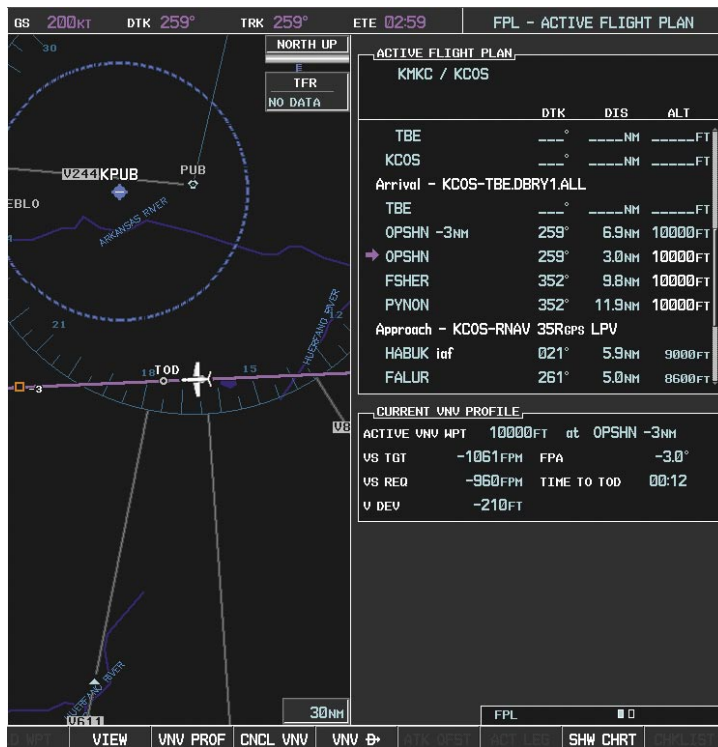
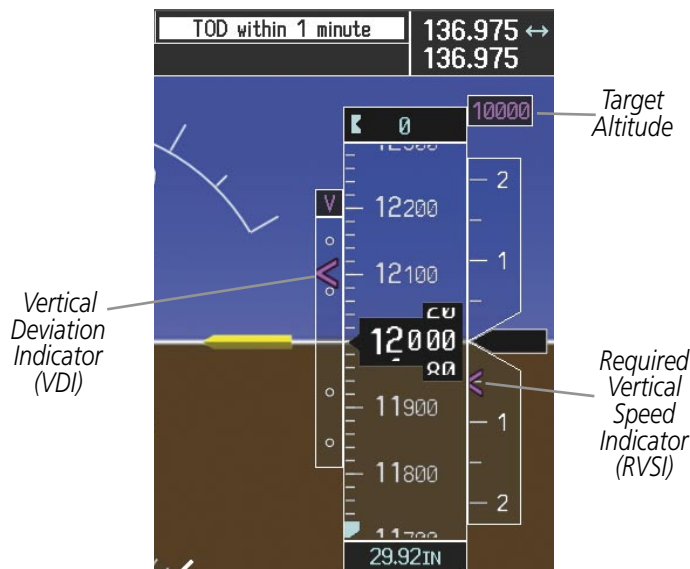

Figure 5-127 Approaching Top of Descent (TOD)
Figure 5-128 VDI & RVSI Upon Reaching Top of Descent (TOD)
- 15) As seen in Figure 5-127, the aircraft is approaching TOD. Note the target vertical speed required to reach the selected altitude. The Vertical Deviation Indicator (VDI) and the Required Vertical Speed Indicator (RVSI) are now displayed on the PFD as shown in Figure 5-128.